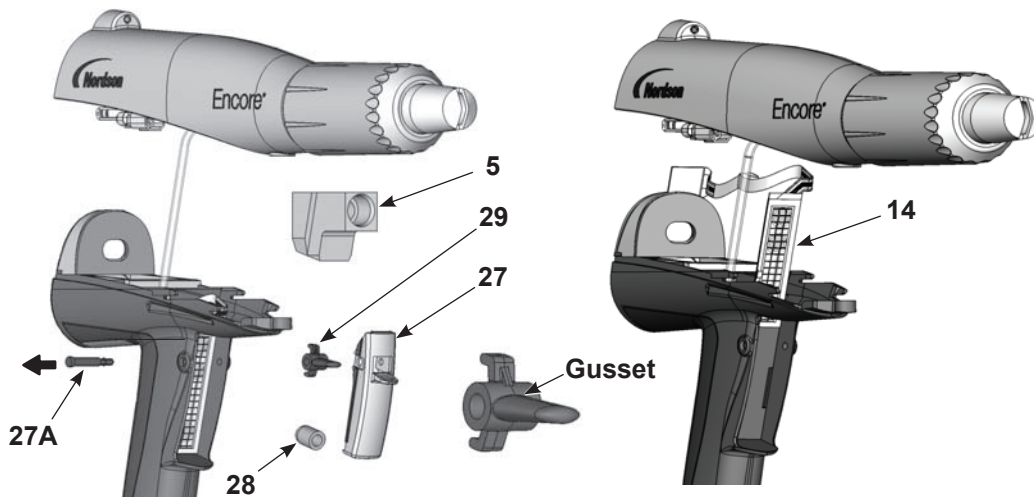

Figure 6-8 Trigger Switch Replacement
3. See Figure 6-8 . Pull out the elbow (5) off the inlet tube.
6. Remove the spray trigger (27), actuator (28), and purge trigger (29) from the handle.
7. Use a tool to pry and pull the trigger switch (14) off the handle, then pull it up and out of the handle.
1. See Figure 6-8. Orient the new switch (14) with the grid facing the front of the gun, then carefully feed the square, bottom end of the switch through the slot in the handle.